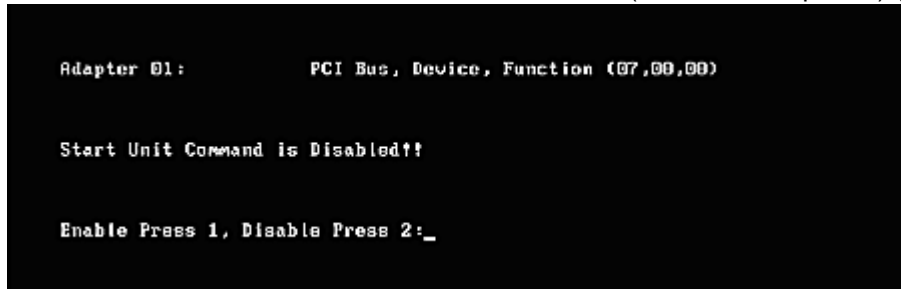

Figure 16: Enable or Disable Start Unit Command screen
2. Select **<8>**, Enable or Disable Start Unit Command (+Advanced Option+) (Figure 16).